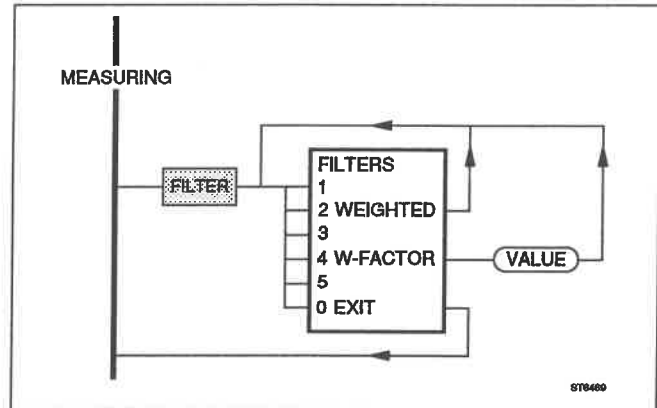

Fig. 4.32 Weighting Filter menu.
- press **FILTER** to invoke the filter menu (Fig. 4.32).